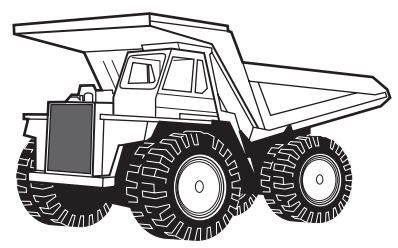

Fig. 1
- 4 Fig. 1 shows a children's toy made from plastic.
- (b) Name the process used to manufacture the parts of the children's toy shown in Fig. 1.